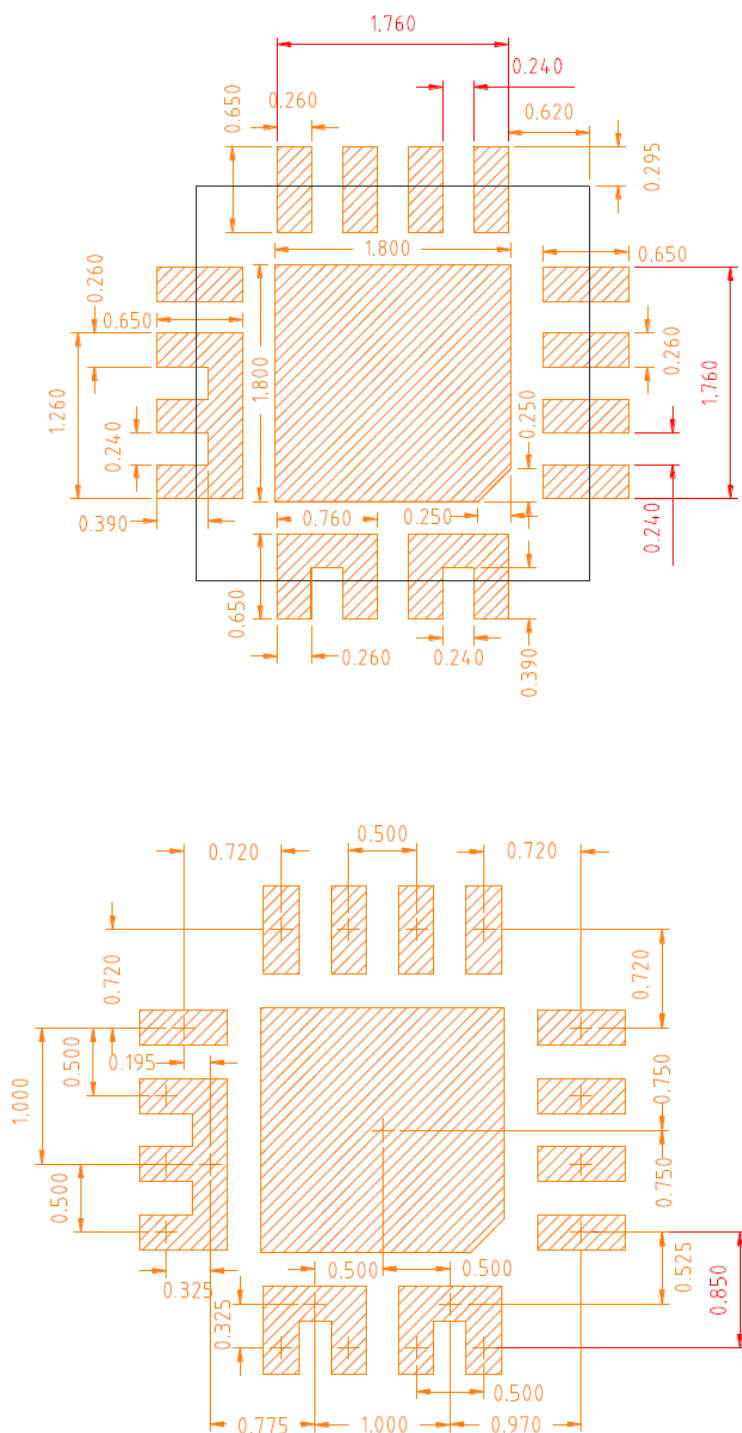

图 8-5 PCB 金属焊盘尺寸和间距 (所有尺寸均以 mm 为单位)
3.1 09-07-21	• Updated Figure 8-5 • Changed "12V" to "5V" in the title of Table 5-6